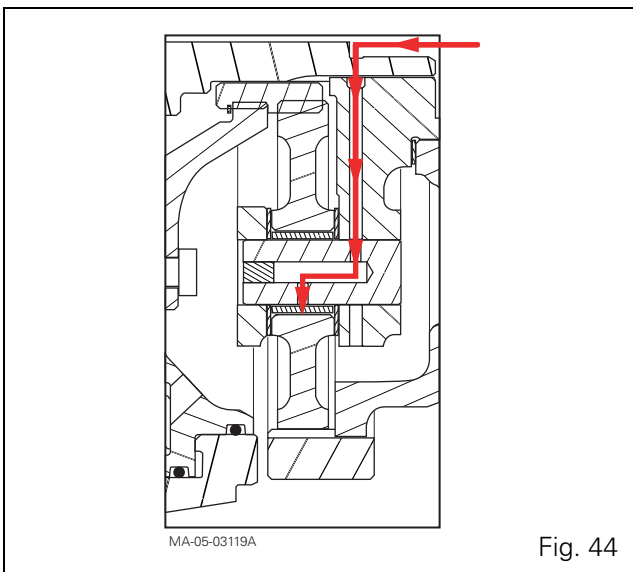

Fig. 44
The pins comprise lubricating ports that must be positioned facing the corresponding ports on the planet carrier (Fig. 44).
NOTE: The pins of the planetary gears (39) are blocked by plugs (40). Check that the plugs are present. Fit new ones if any are missing (Fig. 44).